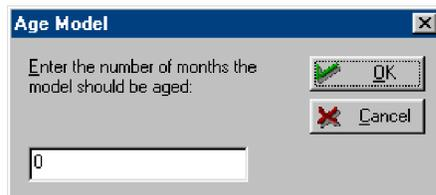

Figure 8.28 *Age Model dialog box*
- 2 In the **Age Model** dialog box (Figure 8.28), enter the number of months to age the model.